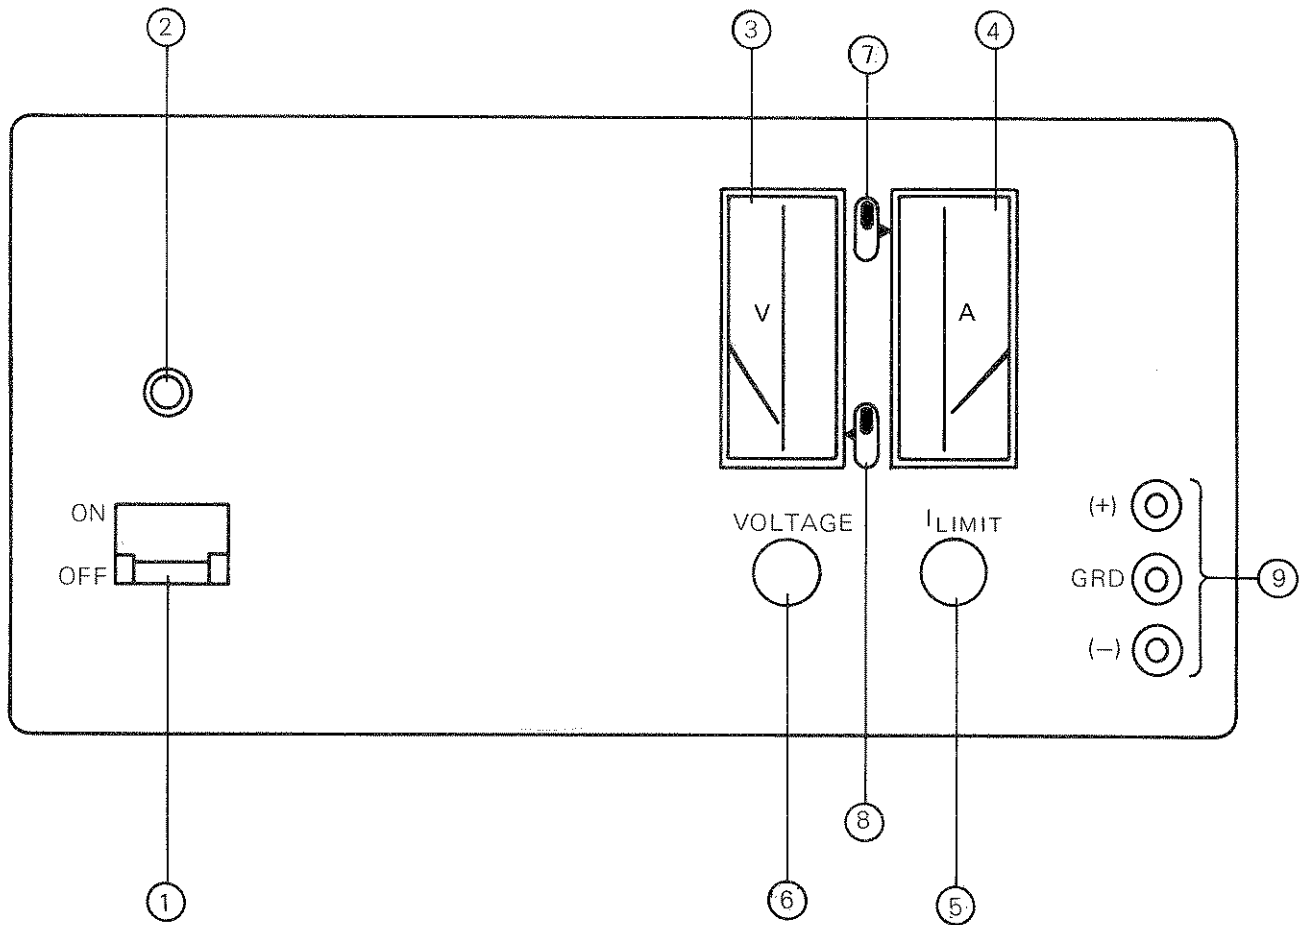

FIG. 2-3 FRONT PANEL CONTROLS AND TERMINATIONS, HALF-RACK JOE MODELS
- b) REAR: Refer to FIG. 2-3 and TABLE 2-3.
- 2-9 A simple operating check after unpacking and before permanent installation is advisable, to ascertain whether the power supply has suffered damage resulting from shipment. Please refer to FIG. 2-3 for the location of the operating controls and output terminals.